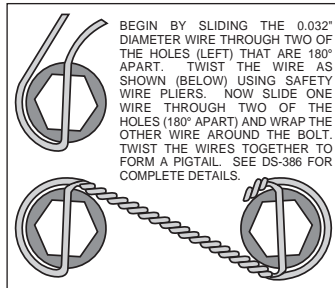

Figure 3. Safety Wire Diagram
- Orient the rotor (6) and the hat (7) as shown in Figure 1 and Photo 2. Attach rotor to hat using bolts (9) and washers (8). Using an alternating sequence, apply red *Loctite*® 271 to the threads and torque bolts to 155 in-lb. For an added measure of security, the bolts may be safety wired using standard 0.032 inch diameter stainless steel safety wire as shown in Figure 3. Please refer to Wilwood's data sheet DS-386 (available at www.wilwood.com/Pdf/DataSheets/ds386.pdf) for complete safety wire installation instructions.